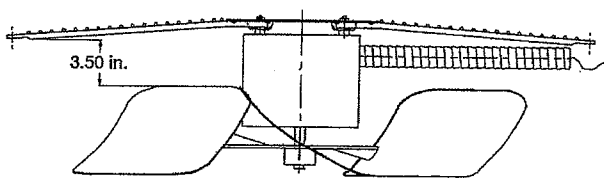

Fig. 56 — Condenser-Fan Adjustment
Condenser-Fan Adjustment (Fig. 56)
3. Adjust fan height as shown in Fig. 56.